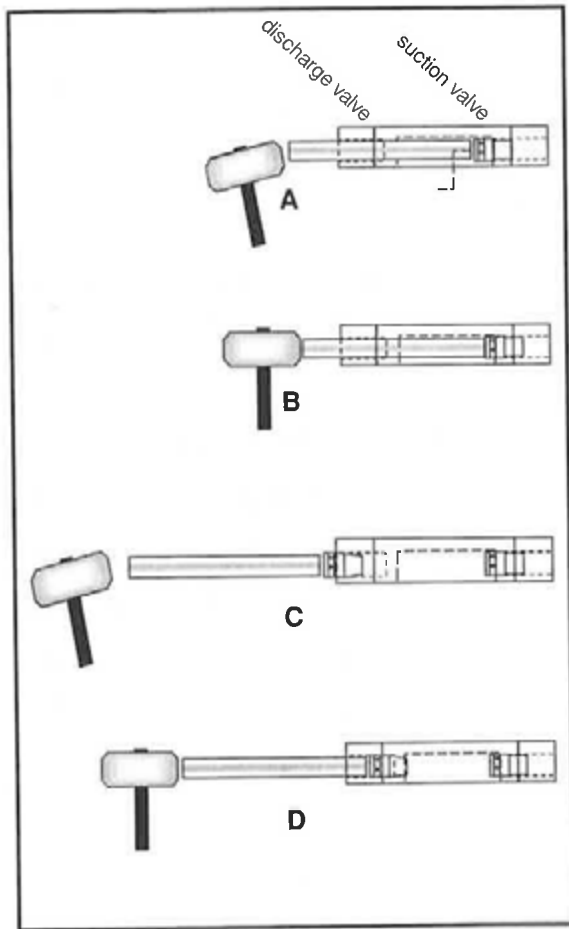

FIG 8.66
- 1) To replace valves, start by inserting a suction valve into the tapered opening. Gently drive the valve into place squarely and tightly (fig. 8.66, A & B).
- 2) Insert the discharge valve in the discharge opening and repeat the above procedure (fig. 8.66 C & D).